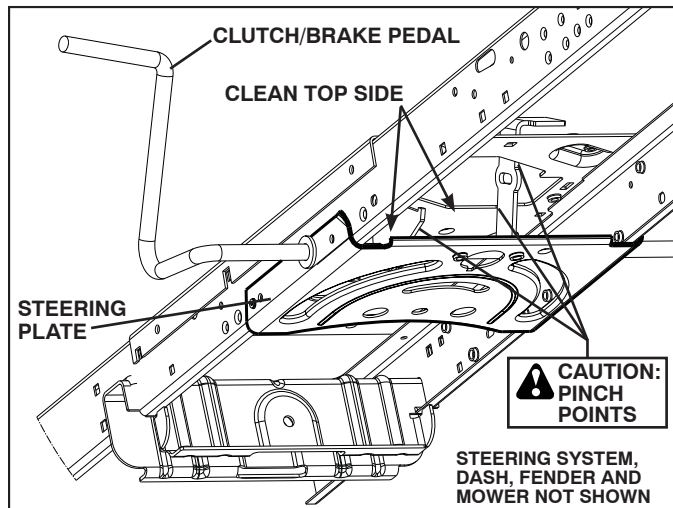

Fig. 17
**CAUTION: Avoid all pinch points and movable parts (See Fig. 17)**